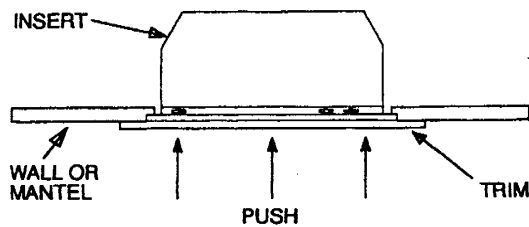

FIGURE 6
6. Push the fireplace/insert into place so that the trim is against the finished Mantel Surround or wall surface.(FIGURE 6)